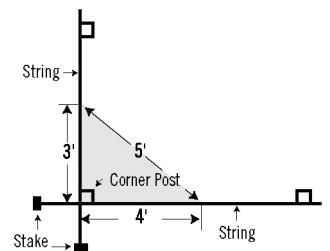

Figure 1b - 3-4-5 Triangle Method
- Ensure square corners with the 3-4-5 triangle method (**Fig. 1b**).